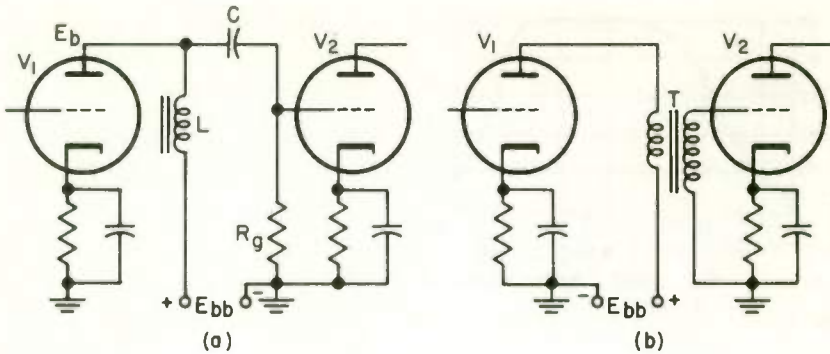

Fig. 8 Voltage amplifiers using other than RC coupling.
6 **VOLTAGE GAIN WITH OTHER COUPLING METHODS** . . . The impedance coupling method of Fig. 8(a) has the advantage that the d-c plate voltage E_b is nearly equal to the supply voltage E_{bb} . With RC coupling, E_b would be much lower due to the voltage drop across the load resistor.
The transformer coupled circuit of Fig. 8(b) will provide higher voltage gain than an RC -coupled circuit because the step-up transformer also boosts the amplitude of the signal voltage. Since the secondary load of transformer T is essentially an open circuit, the primary will appear as a
Neither of the circuits in Fig. 8 is much used for voltage amplifier coupling between tube stages. *RC* coupling is inexpensive, nonbulky, light in weight, more troublefree, and it has better frequency response.
4. Refer to Fig. 8(b). Assume the value of the input signal voltage E_x to the grid of V_1 is 1.5 mV, and the gain due to V_1 is 40. Ignoring any losses, the voltage across the primary of transformer T is (a) _____ volts. If transformer T has a step-up ratio of 2 to 1, the value of the signal voltage applied to tube V_2 is (b) _____ volts. The gain of the stage of V_1 is (c) _____.